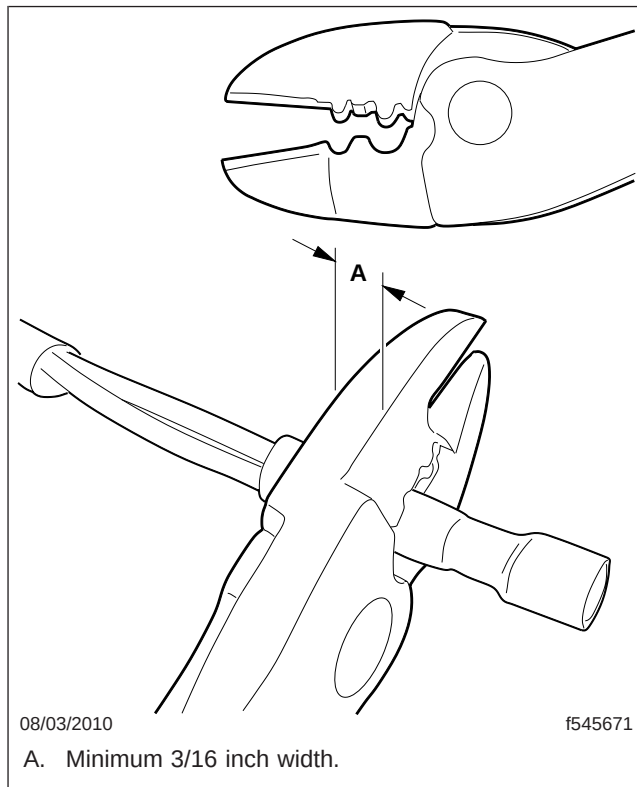

Fig. 1, Dimple-Type Crimp Tool
- A dimple-type crimp tool with a minimum 3/16 inch width. See Fig. 1 for an example of a proper crimp tool. A typical manufacturer for this tool is Thomas & Betts.
4. Crimp each end of the barrel using a dimple-type crimp tool to secure the wires. See Fig. 1 for an example of a proper crimp tool.